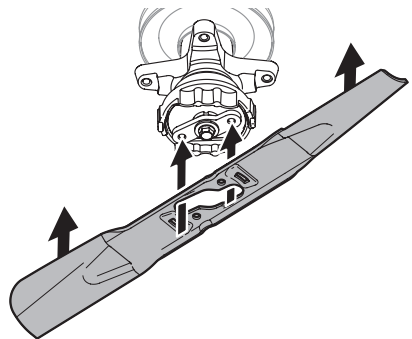

Fig. 52
3. Position the blade under the spindle assembly and carefully align the large opening in the center of the blade over the tractor blade retainer (Fig. 52).